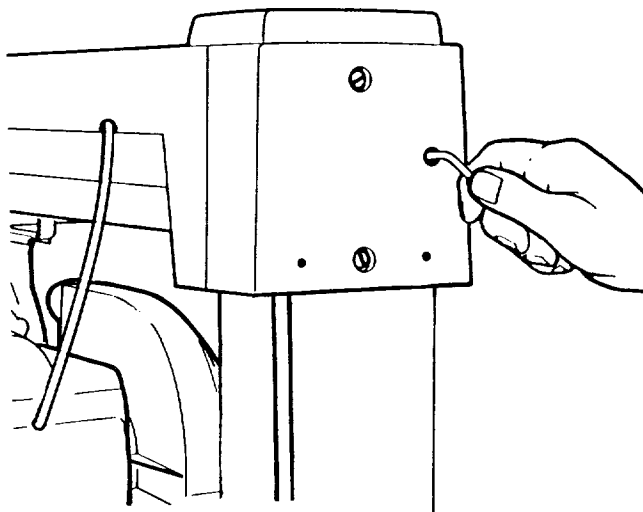

Fig. 132 - Location of Hex Socket Cap Screw
2. With a 3/16 inch hex "L" wrench find the 1/4-20 hex socket cap screw through the hole in the rear of the *arm cover*. To tighten turn the wrench clockwise approximately 1/4 turn. (Figure 132)